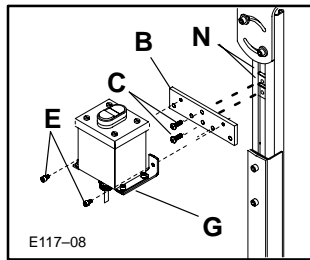

Figure 8: Start-Stop Box Vertical Mounting to Steel Stand Leg
- b. Attach the unit to the Leg channel in the manner shown in Figure 8. Attach the Pushbutton Box assembly with Mounting Brackets (in the same way it was packaged, when shipped) to the two Spring Nuts, using the M6 x 16 mm Button Head Cap Screws. Tighten Screws with 4 mm Hex Key Wrench provided.